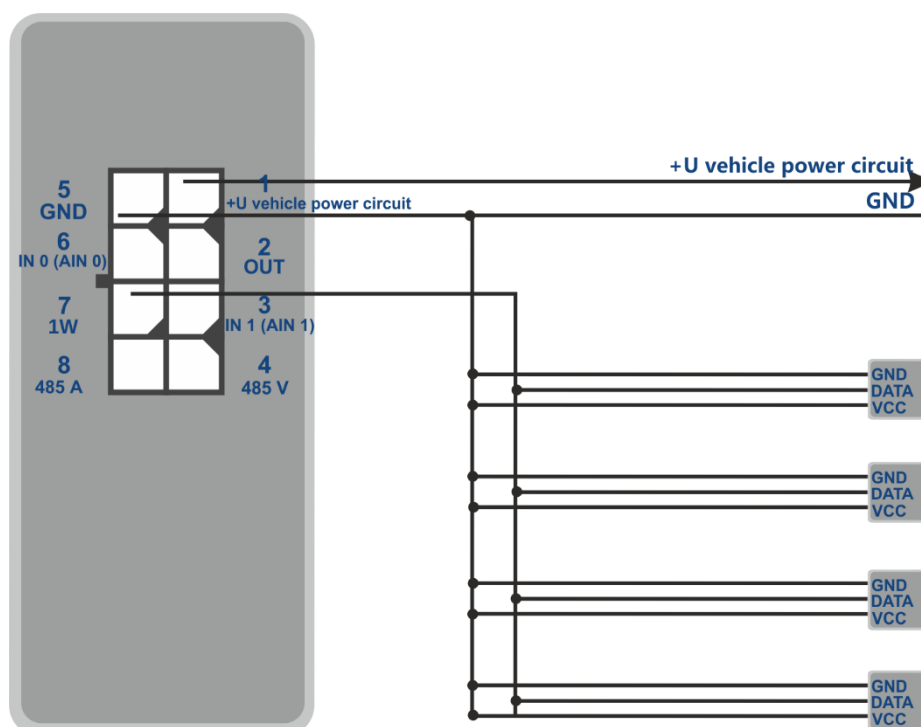

Figure 11- Connection scheme of the sensors and iButton DS18B20 to CAN of 1-wire
- Connect temperature sensors to the CAN of 1-Wire using the scheme in figure 11.